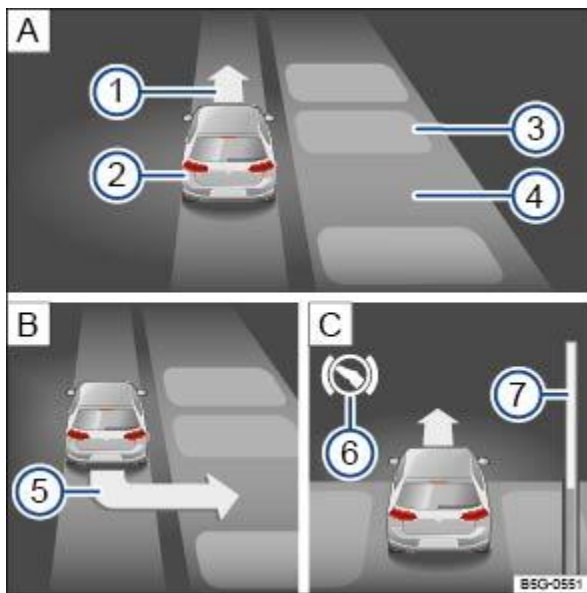

Fig. 131 On the instrument cluster display: parking perpendicular to the road.
Drive into the parking space when a corresponding prompt ⇒ Fig. 131 ⑤ is shown on the instrument cluster display ⇒ Driving into a parking space .
Key to ⇒ Fig. 131 :
Brake when an acoustic signal sounds to indicate that you should change direction, an arrow ⇒ Fig. 131 ① **A** lights up, the display lights up or a message is shown.